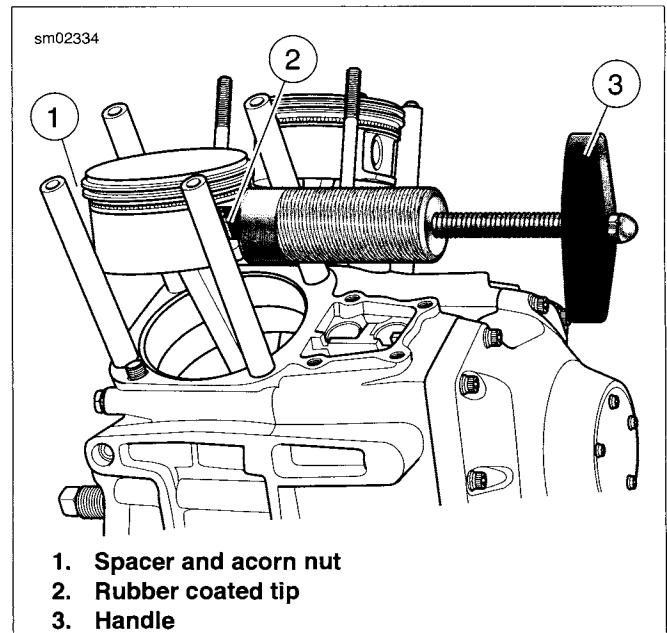

Figure 3-28. Piston Pin Remover (Part No. HD-42320-B)
3. See Figure 3-28. Remove the piston pin. If piston pin is difficult to remove, use PISTON PIN REMOVER (Part No. HD-42320-B).
- b. Slide rod end through piston pin. Install spacer and acorn nut (1) on end of rod.
- c. Position rubber-coated tips (2) of tool on flat each side of pin bore.
- d. Turn handle (3) in a clockwise direction until piston pin is pulled free of bore.